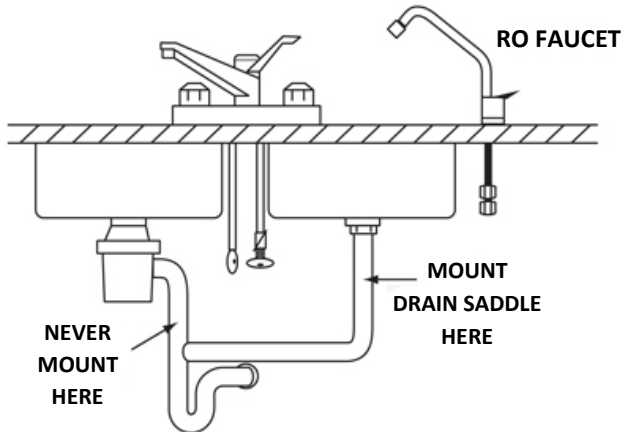

Figure 10:
The drain saddle assembly should be installed above the P-trap on the vertical or horizontal tail-piece (See Figure 10 below). Use the black 1/4" saddle for the non air-gap RO faucet, or the white 3/8" saddle for the air-gap RO faucet.
- A. Position the drain saddle in the desired location, mark the spot to be drilled, and remove the saddle. (See Figure 10).